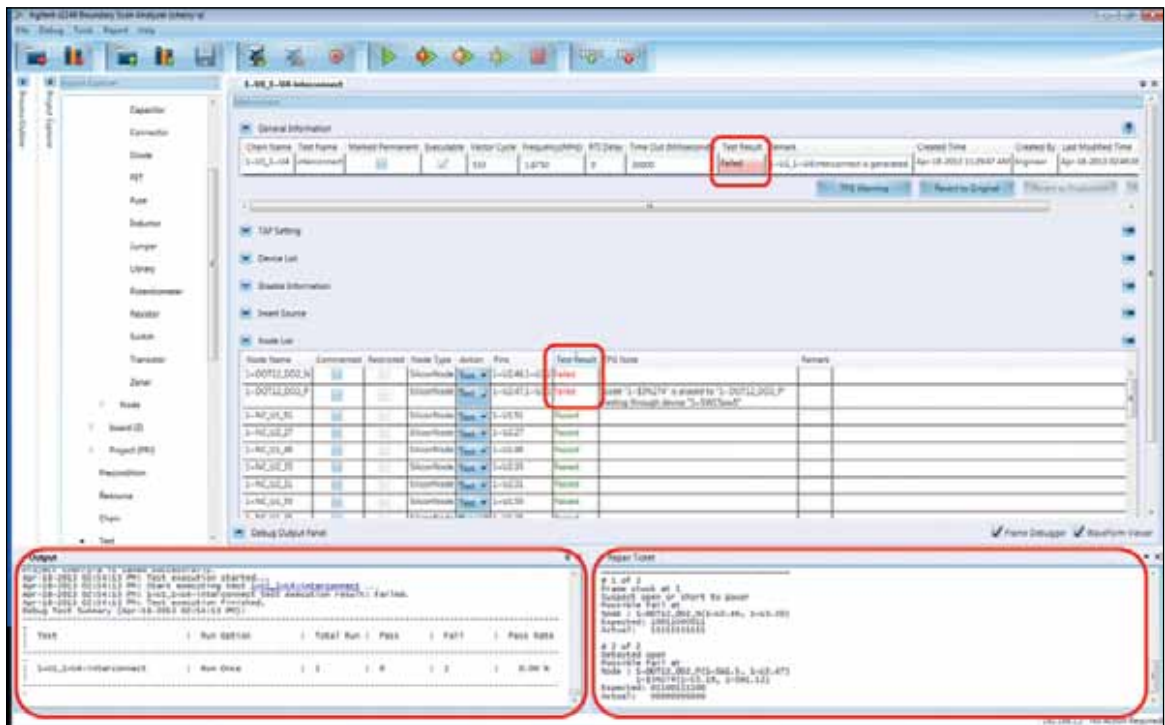

FIGURE 1. Debug interface shows location of failing pins and test during boundary scan interconnect test.
- Numerous boundary scan debugging tools available help test engineers debug failing tests. **FIGURE 1** is an example of a typical debug interface with a message clearly showing the failing device pins for the test engineer to take action.